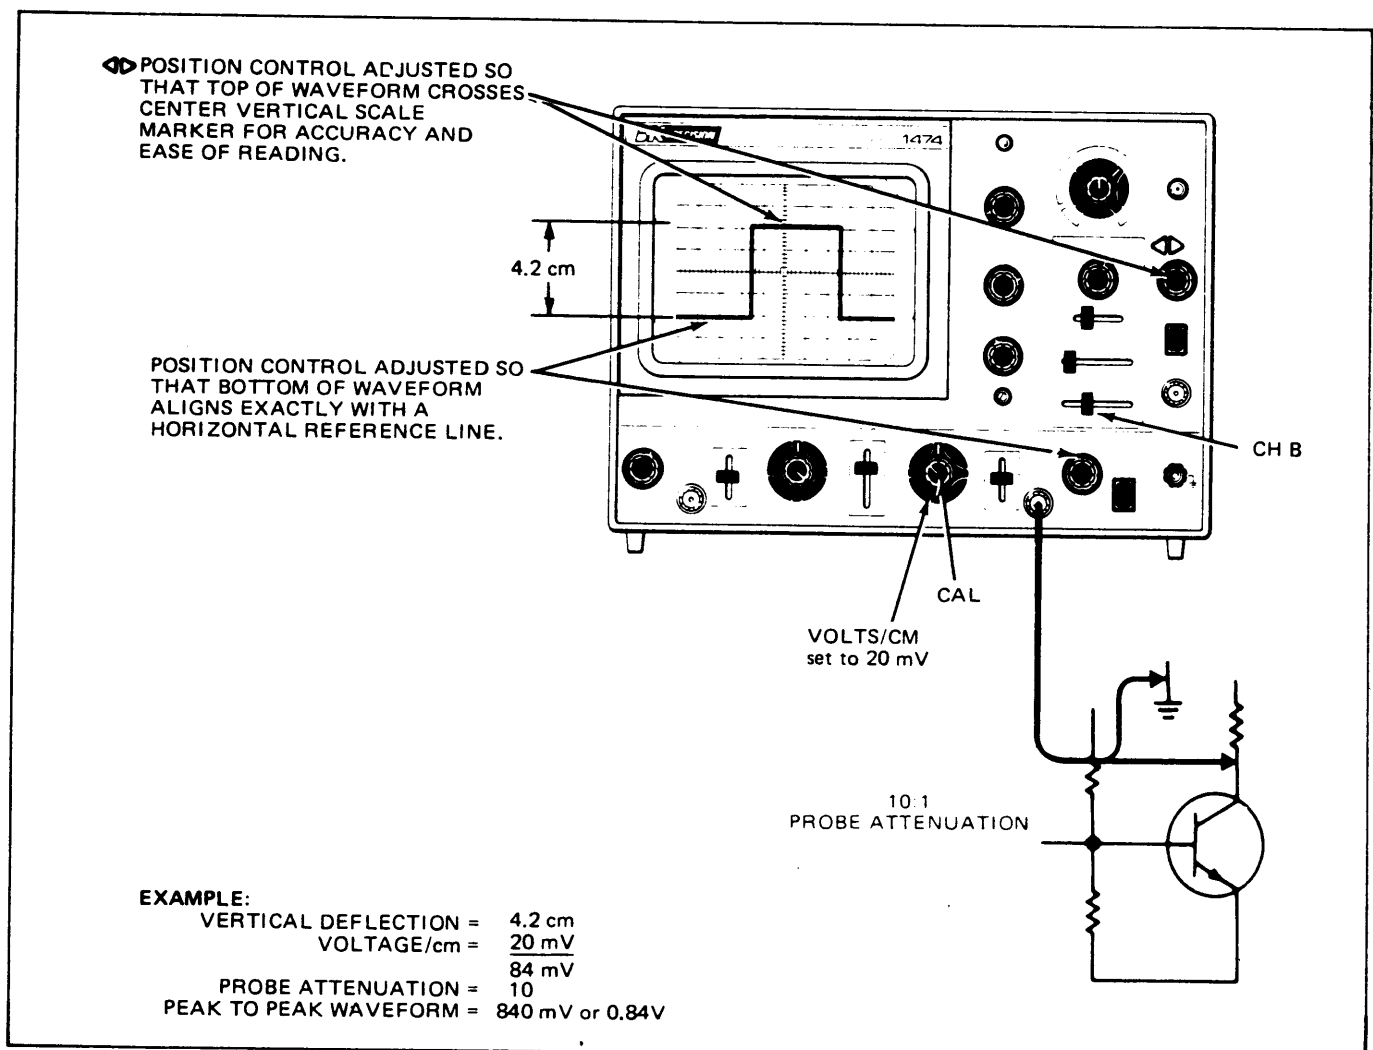

Fig. 4. Typical voltage measurement.
## CALIBRATED VOLTAGE MEASUREMENT (See Fig. 4)
5. Calculate the voltage reading as follows: Multiply the vertical deflection (in cm) by the VOLTS/CM control (20) setting (see example in Fig. 4). Don't forget that the voltage reading displayed on the oscilloscope is only 1/10th the actual voltage being measured when the probe is set for 10:1 attenuation. The actual voltage is displayed when the probe is set for DIRECT measurement.
6. Calibration accuracy of this oscilloscope may be occasionally checked by observing the 0.5 volt peak-to-peak square wave signal available at the CAL 1kHz  $\square$  0.5 V p-p jack (7). This calibrated source should read exactly 0.5 volt peak-to-peak. If a need for recalibration is indicated, see the MAINTENANCE AND CALIBRATION section of the manual for complete procedures.